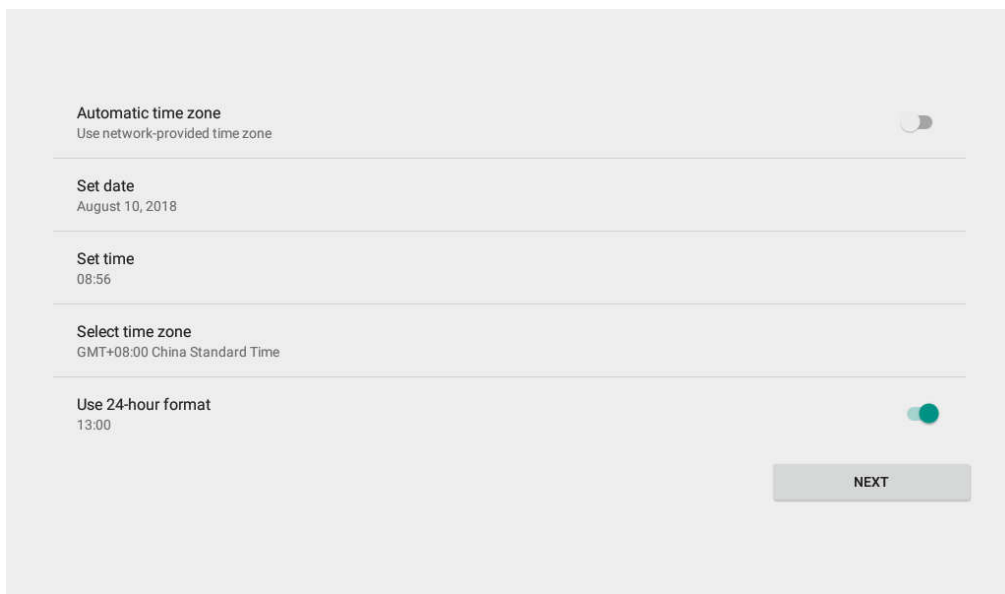

Fig 4.46 Use 24-hour format
⑥ “Use 24-hour format”: Set the 24-hour format as Fig 4.46 below.